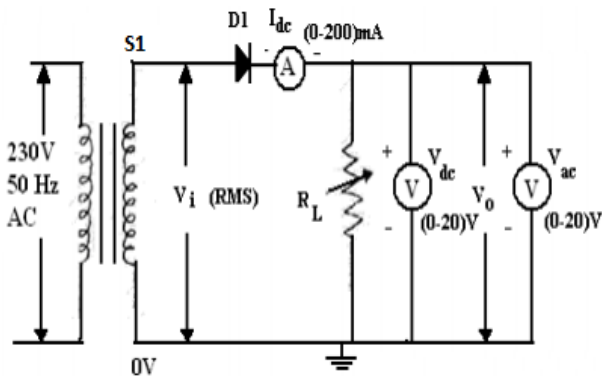
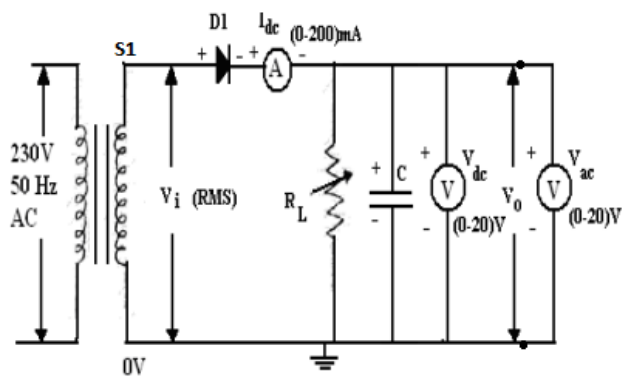
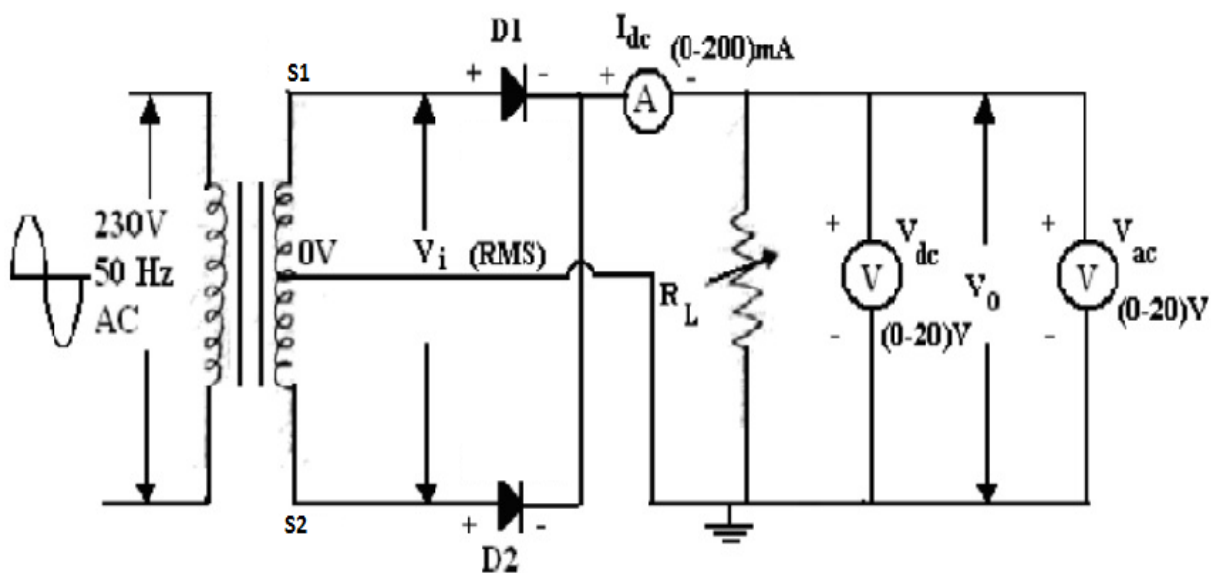
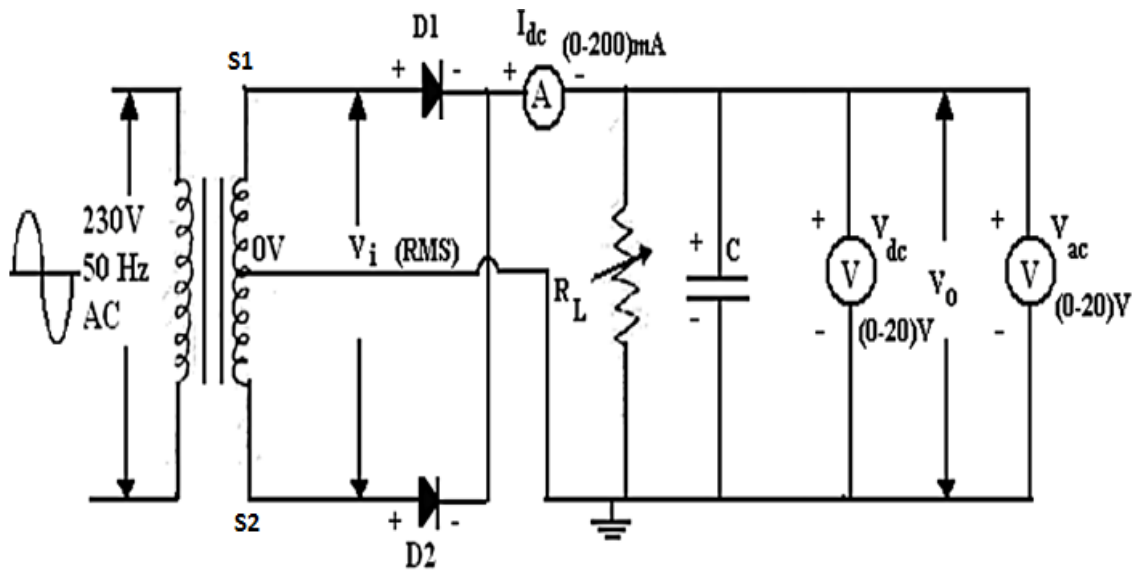

Fig.3. Half –Wave Rectifier without Capacitor
Fig.4. Half –Wave Rectifier with Capacitor
Fig.5. Center-Tap Full- Wave Rectifier without capacitor
Fig.6.Center-Tap Full- Wave Rectifier with capacitor
- Assemble the circuit according to Fig. 3. for half-wave and Fig. 5. for full wave without capacitor and Fig. 4. for half- wave and Fig. 6. for full wave with capacitor with $R_{load} = 100\Omega$ - $2K\Omega$. Use the 6-0-6 Vrms output of the transformer.